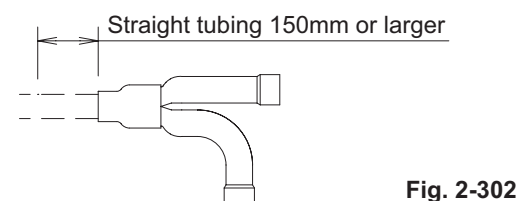

Fig. 2-302
- For branching tubes, install 150mm or larger (including reducer) straight tubing up to the point where the tube branches (or after the point where the tubes join together). (Fig. 2-302)